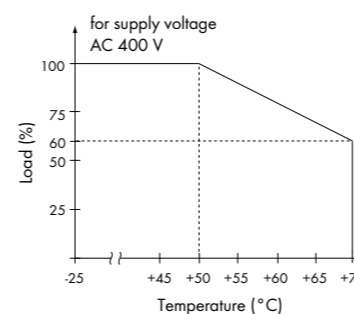

Fig. 5: Temperature derating curve
A derating of -2.0%/K shall be taken into account for surrounding air temperature Ta > +50°C and input voltages Uin ≥ AC 400 V (see Fig. 5)
-25°C ≤ Ta ≤ +70°C (see Fig. 5)